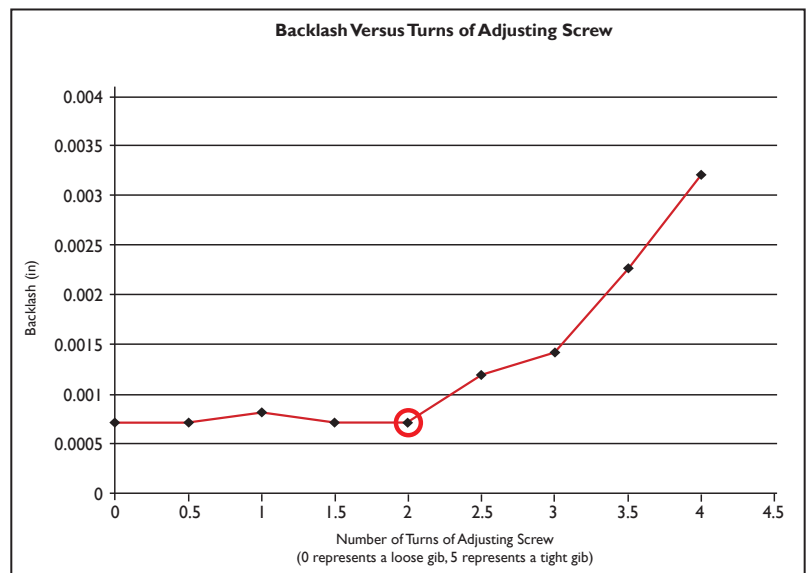

Figure 9.3
5. Back the adjustment off to the point just before you saw the increased backlash. That is the ideal setting for the axis (see **Figure 9.3**).